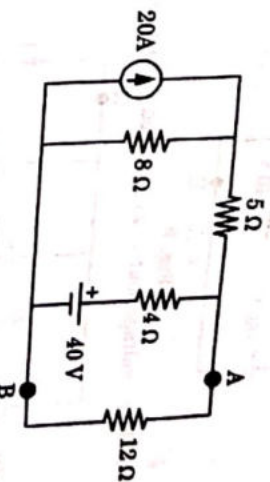

Fig. 6.
3. Give the statement of Norton's Theorem. Find the current in 12 ohm resistance using Norton's theorem for the given circuit in Fig. 6. (10 × 1 = 10)